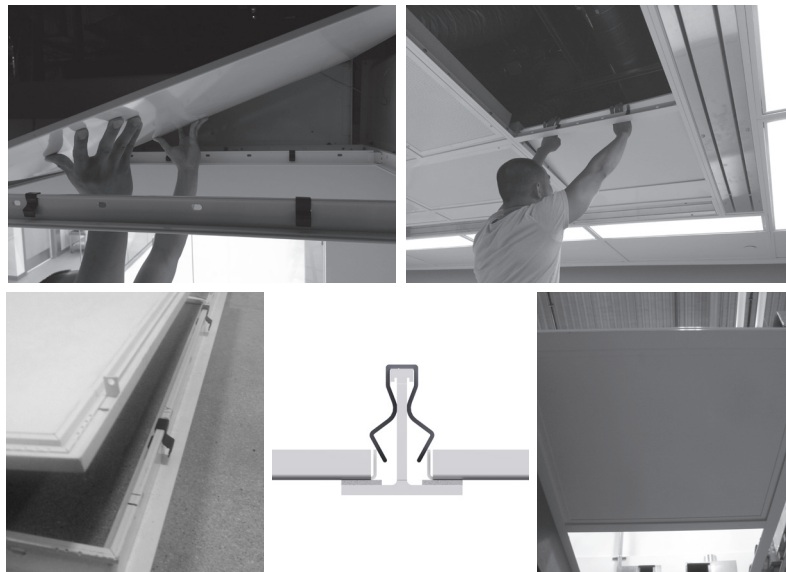

Figure 24. Ceiling Access Panel Installation
- For cross tees, or sections where there are back-to-back panels, install ceiling install ceiling access clips (Part Number 026002-002) along two opposite sides of where the panel will be installed. To install hold down clips, press the clips on the top of the tee until they snap in place (no tools required). Refer to Figure 24 for details.
- For panels requiring room-side accessible that located between/beside diffuser units, install one-sided ceiling clips (part number 026002-003) by holding them in place along the half tee and screwing it in using provided hardware. Refer to figure 24 for details.
- For panels not requiring room-side access that are located between/beside diffuser units that do not require room side accessibility, install Universal Hold Down Clips (Part Number 026001-001) by hooking them under the ceiling tee. Refer to Figure 24 for details.
Step 20: Install ceiling panels in appropriate locations (refer to job specific submittal for locations). Maneuver panel through the grid opening so that the entire panel is above the tee surface. Place the panel at a 30 degree angle and push one edge of the panel against the ceiling access clips. Drop the panel to engage remaining ceiling access clips (**Figure 24**). For small panels, it may be necessary to push down on some edges to ensure all clips have been locked in place.